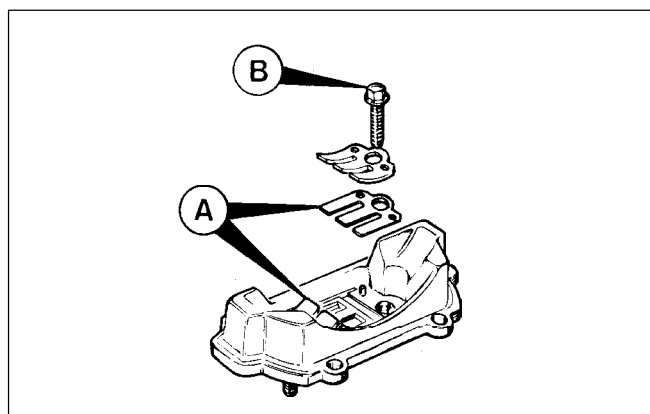

Fig. 3
Fig 3 shows the reed plate. In case of a broken or damaged reed it is necessary to change the two reeds (A) by removing the two screws (B).